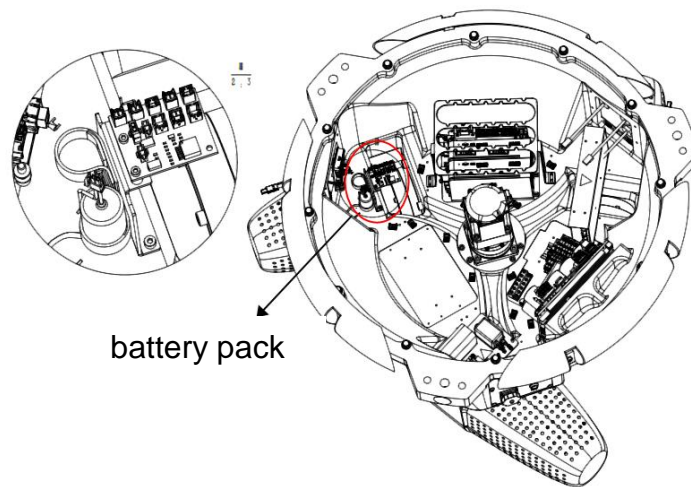

Figure 4-2 Encoder battery location
Step 3 After removing the top cover, the position of the internal encoder battery is shown in Figure 4-2.